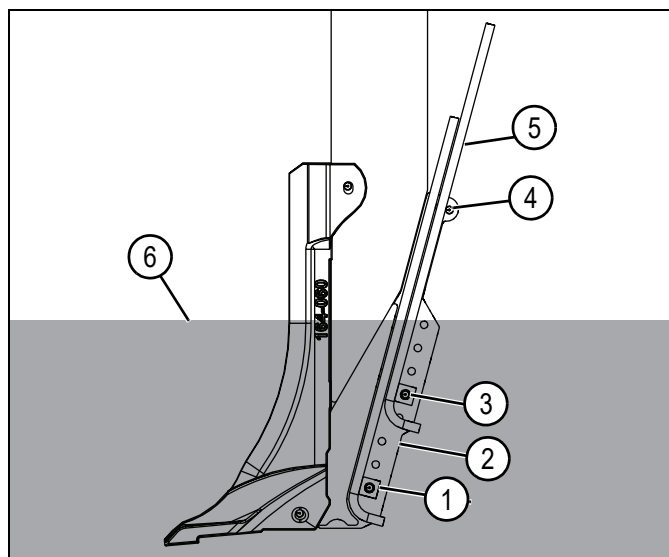

Figure 5-12: Adjustable Liquid Tubes (wear plate removed for clarity)
The lowest setting is 1 in (2.54 cm) above the deepest part of the mole point. The holes in the side plate (2) are arranged vertically in 1 in (2.54 cm) increments. This will help you calculate at what depth you are applying fertilizer. For example, if you have the shank set to till at a depth of 9 in (22.86 cm), the fertilizer tubes (8) would be applying fertilizer at depths of 8 in (20.32 cm) and 4 in (10.16 cm). See Figure 5-12.